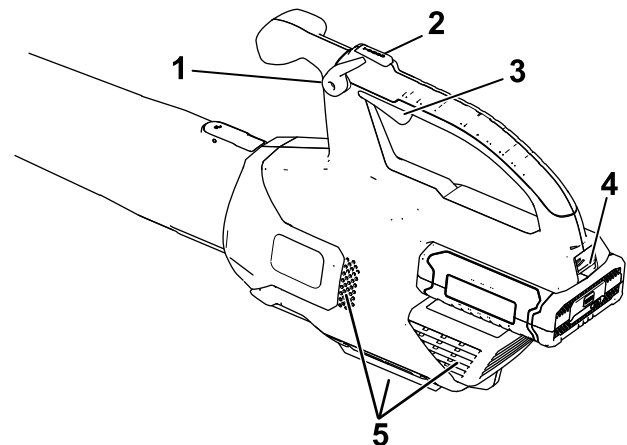

Figure 4
2. To start the blower, squeeze the variable-speed trigger (Figure 4).
**Note:** Engage the speed lock to keep the machine on without pressing the variable-speed trigger (Figure 4).
To accelerate the blower speed, press and hold the turbo boost button for the desired amount of time (Figure 4).
To stop the blower, disengage the speed lock (if in use) and release the variable-speed trigger (Figure 4).